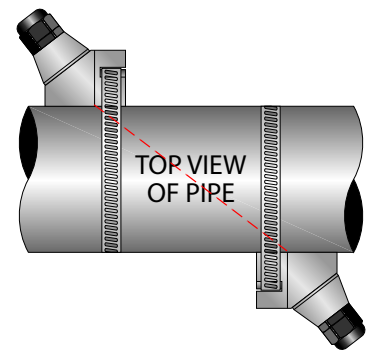

Figure 30: Z-Mount transducer placement
The DTTR, DTTN, DTTT and DTTL transducers must be properly oriented and spaced on the pipe to provide optimum reliability and performance. On horizontal pipes, when Z-Mount is required, the transducers should be mounted 180 radial degrees from one another and at least 45 degrees from the top-dead-center and bottom-dead-center of the pipe. See Figure 30 on page 29. Also see "Z-Mount Installation" on page 28. On vertical pipes the orientation is not critical.
7. Place the downstream transducer on the pipe at the calculated transducer spacing. See Figure 30. Using firm hand pressure, slowly move the transducer both towards and away from the upstream transducer while observing signal strength. Clamp the transducer at the position where the highest signal strength is observed. A signal strength percentage between 10...98 is acceptable.